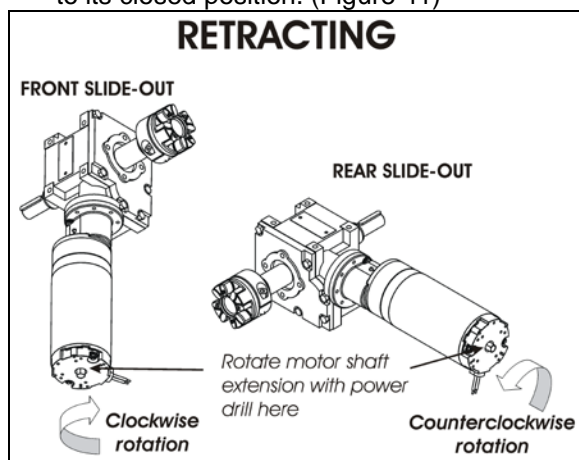

FIGURE 41: SLIDE-OUT MOTOR ROTATION
5. Rotate the slide-out motor shaft extension with the power drill until the slide-out comes to its closed position. (Figure 41)